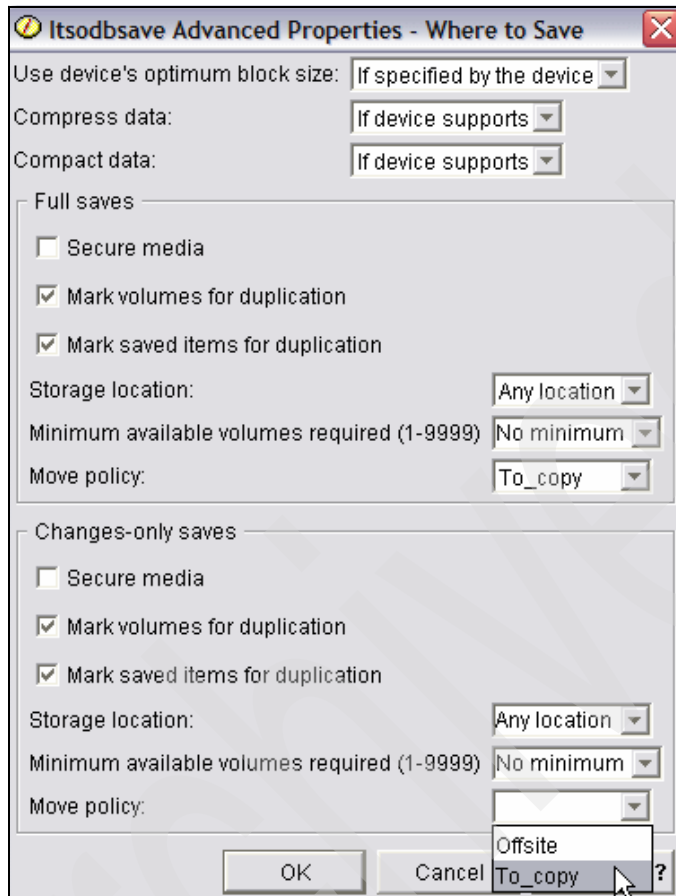

Figure 7-42 Advanced properties
2. Click **Advanced**. The window shown in Figure 7-42 on page 375 appears. Here you specify how duplication of the virtual volumes to real tapes should be done.
3. After making your selections, click **OK**, as shown in Figure 7-42 on page 375.